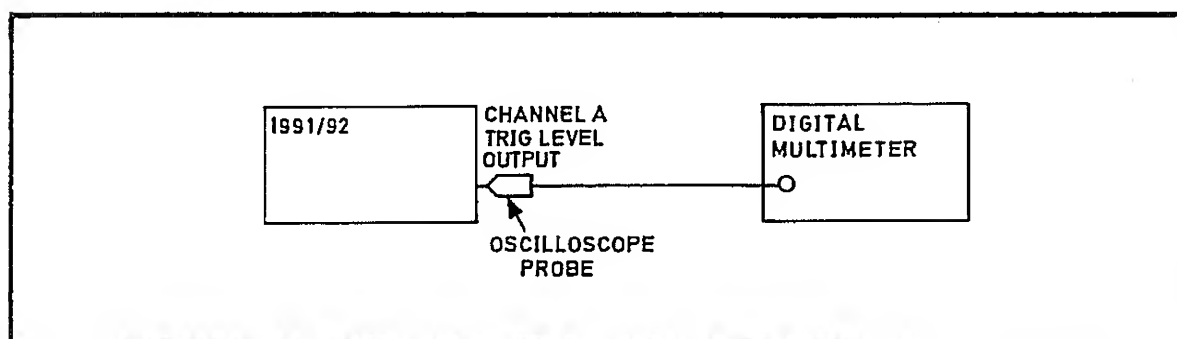

Fig 7.25 Connections for Trigger Level PVP
- (1) Connect the test equipment as shown in Fig 7.25.
- (2) Set the multimeter to measure DC volts.
- (3) Press **TRIG LEVEL** **5** **TRIG LEVEL** on channels A and B.
- (4) Verify that the multimeter indicates $+5\text{ V} \pm 60\text{ mV}$.
- (5) Transfer the probe to the channel B TRIG LEVEL OUTPUT pin and verify that the multimeter indicates $+5\text{ V} \pm 60\text{ mV}$.
- (6) Press **TRIG LEVEL** **0** **TRIG LEVEL** on channels A and B.
- (7) Verify that the multimeter indicates $0\text{ V} \pm 10\text{ mV}$.
- (8) Transfer the probe to the channel A TRIG LEVEL OUTPUT pin and verify that the multimeter indicates $0\text{ V} \pm 10\text{ mV}$.
- (9) Press **TRIG LEVEL** **5** **SHIFT** **±** **TRIG LEVEL**
- (10) Verify that the multimeter indicates $-5\text{ V} \pm 60\text{ mV}$.
- (11) Transfer the probe to the channel B TRIG LEVEL OUTPUT pin and verify that the multimeter indicates $-5\text{ V} \pm 60\text{ mV}$.